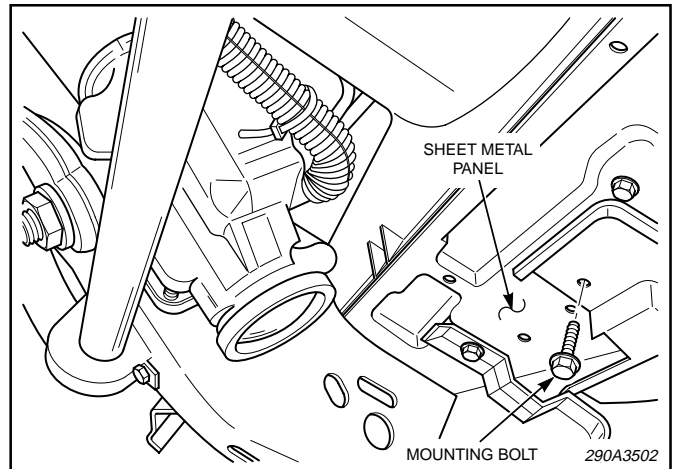

Figure 2.
a. See figure 2. Locate, remove, and retain the screw that secures the plastic shield behind the bumper and in front of the steering box.